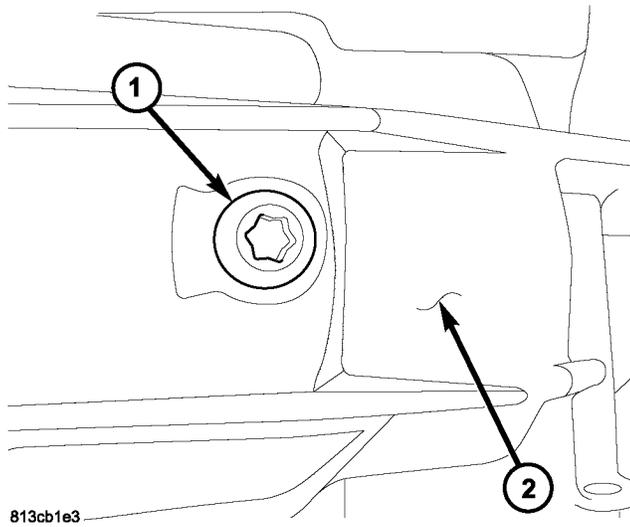

Fig. 90 IDLER SHAFT BOLT
(9) Install idler gear shaft bolt (1) (Fig. 90) into the housing (2) and tighten to 20 N.m (15 ft. lbs.).